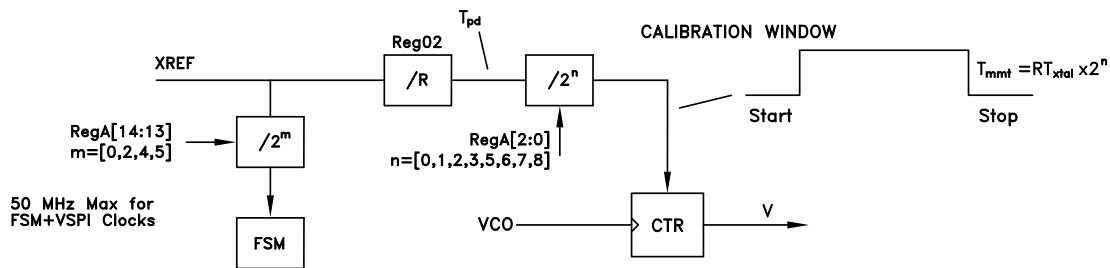
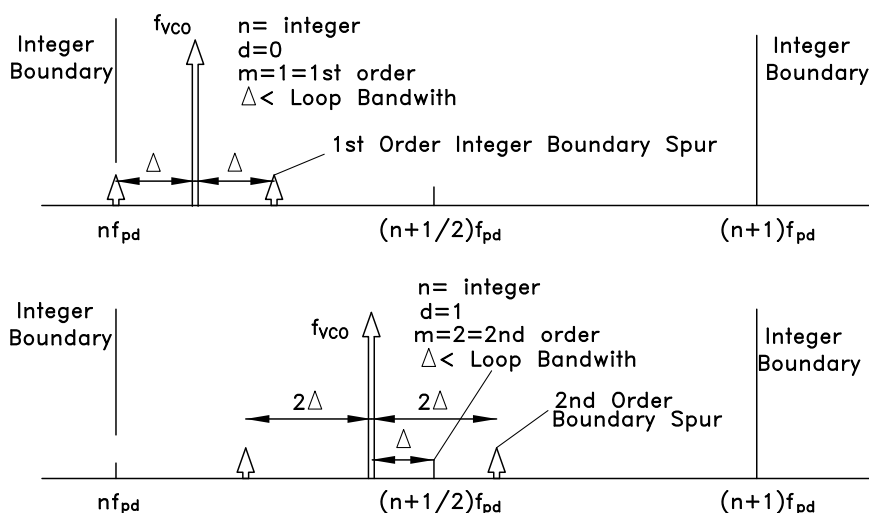
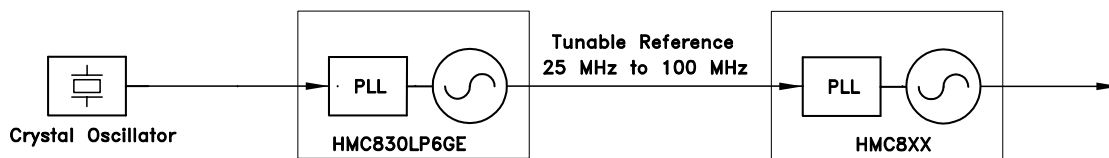

Figure 35. VCO Calibration
Figure 36. Fractional Spurious Example
Figure 37. Tunable reference source
For example, Figure 35 shows the spectrum of a carrier operating at 2000.1 MHz with a 50 MHz fixed reference. This case is 100 kHz away from an Integer Boundary (50 MHz x 40). Worst case spurious can be observed at 100 kHz offset and about -52 dBc in magnitude.
Figure 36 shows the same HMC833LP6GE PLL VCO operating at the same 2000.1 MHz carrier frequency, using a tunable reference at 47.5 MHz generated by HMC830LP6GE. Worst case spurious in this case can be observed at 5 MHz offset and about -100 dBc in magnitude.
The results of Figure 35 and Figure 36 show that the tunable reference source achieves 50 dB better spurious performance, while maintaining essentially the same phase noise performance.
Many spurious measurements, such as the ones in Figure 35 and Figure 36 can be summarized into a single plot of worst case spurious at any offset vs. carrier frequency as shown in Figure 37. A log frequency display relative to the 2000 MHz fixed reference Integer Boundary was used to emphasize the importance of the loop bandwidth on spurious performance of the fixed reference case. This technique clearly shows the logarithmic roll-off of the worst case spurious when operating near the Integer Boundary. In this case the loop filter bandwidth of the HMC833LP6GE was 100 kHz.
For example worst case spurious operating at 2000.1 MHz (point (A) in Figure 35 with a fixed 50 MHz reference) is represented by a single point in Figure 37 (point (A) on the blue curve). Similarly, worst case spurious from Figure 36 with variable reference, operating at 2000.1 MHz is represented by a single point in Figure 37 (point (B) on the green curve).
The plot in Figure 37 is generated by tuning the carrier frequency away from Integer Boundary and recording the worst case spurious, at any offset, at each operating frequency. Figure 37 shows that the worst case spurious for the 50 MHz fixed reference case, is nearly constant between -51 dBc and -55 dBc when operating with a carrier frequency less than 100 kHz from the Integer Boundary (blue curve). It also shows that the worst case spurious rolls off at about 25 dB/decade relative to 1 loop bandwidth. For example, at an operating frequency of 2001 MHz (equivalent to 10 loop bandwidths offset) worst case spurious is -80 dBc. Similarly, at an operating frequency of 2010 MHz (equivalent to 100 loop bandwidths) worst case spurious is -100 dBc.
In contrast, the green curve of Figure 37 shows that the worst case spurious over the same operating frequency range, when using an HMC830LP6GE tunable reference, is below -100 dBc at all operating frequencies!